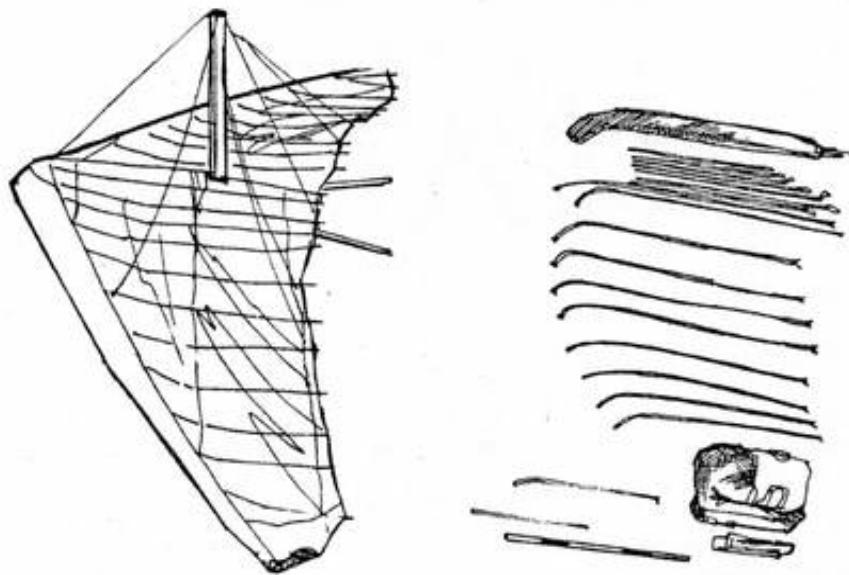

Fig.12
2.2.8. Remove the battens from the bag and lay them on the ground for each wing separately in decreasing order of length. Check them for symmetry. Correct any that are assymetric using the template (Fig.12). Insert top surface battens from longer to shorter except two longest battens.